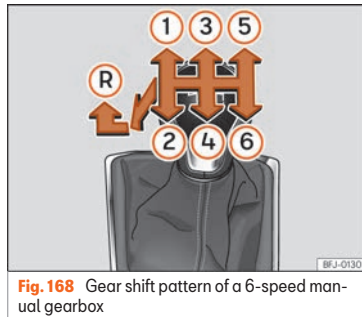

Fig. 168 Gear shift pattern of a 6-speed manual gearbox
The position of the gears is indicated on the gearbox lever **>>> Fig. 168.**
»» Fig. 168 (R).